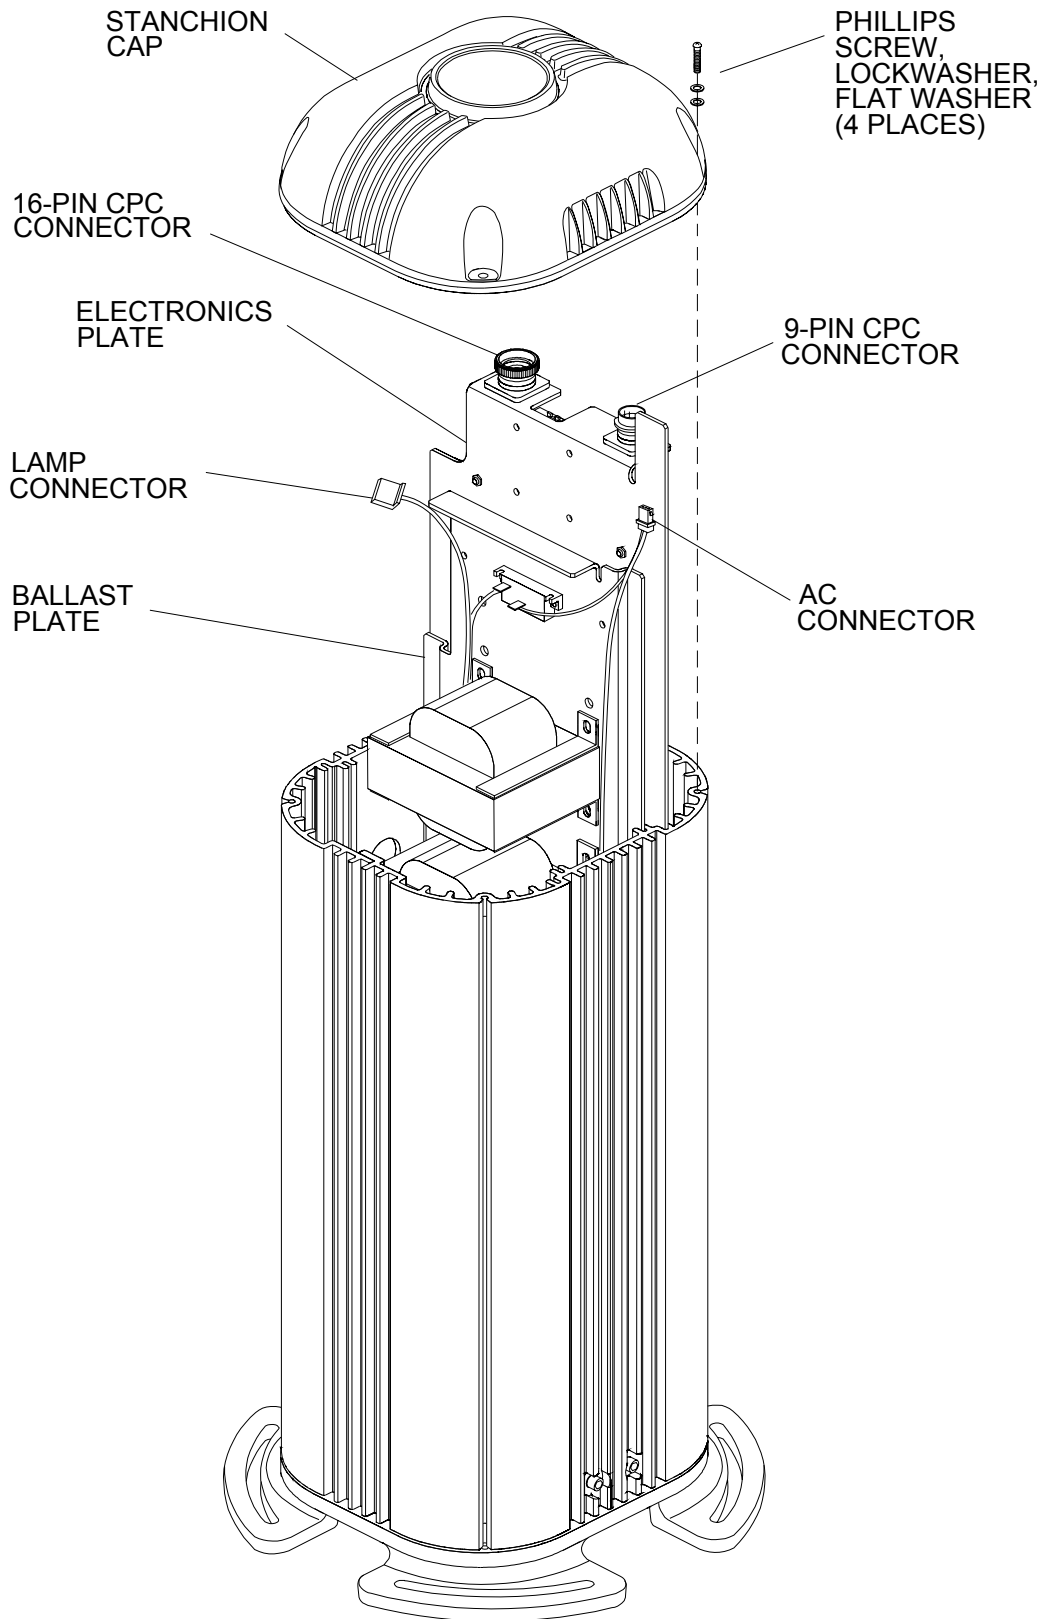

Figure 6.8 -Removing the Electronics Plate and Ballast Plate.
4. Lift ballast assembly vertically from the stanchion until free of guide grooves (Figure 6.8).
3. Lift electronics plate assembly vertically from the stanchion until free of guide grooves (Figure 6.8).
1. Using #2 Phillips screwdriver, loosen four screws and remove stanchion cap (Figure 6.8).